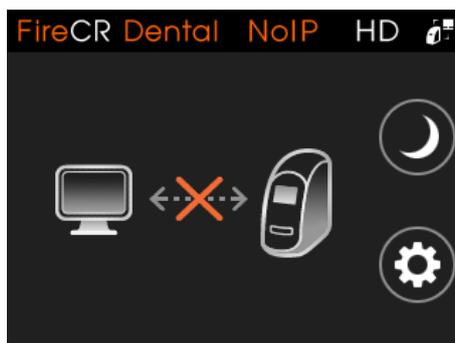

Figure 6.21 Not Connected
3. Turn on the scanners. Figure 6.21 shows the scanner LCD window. The LAN Connection icon is located at the upper right corner of the window.